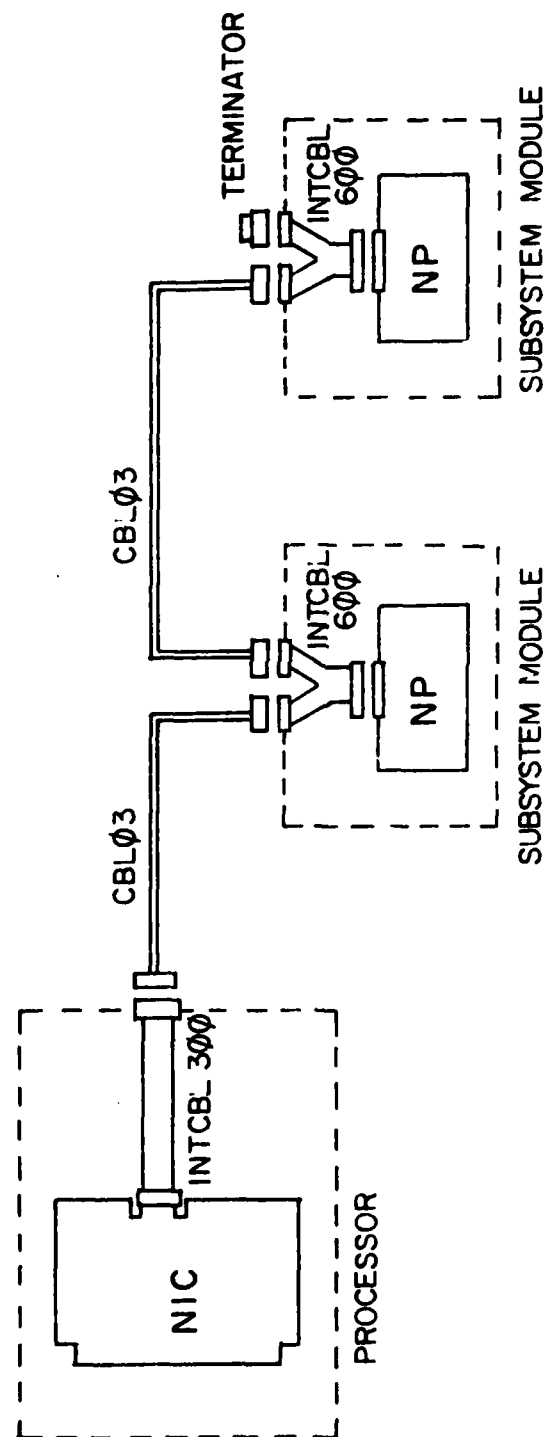

Figure B-4 SIC Bus Connections
| <p>The SIC tests will establish the operational performance of all components of the Subsystem Information Channel (SIC). The components to be tested include the nameplate interface controller, the subsystem information channel bus and two electronic nameplates. Test scripts I.1, I.2, and I.3 should have been run and the LMG CRT should have the prompt:</p> <p style="padding-left: 40px;">CMD&gt;</p> <p>displayed before preceding with these test scripts.</p> <p>N.1 SIC Test Setup(Refer to Figure B-4 )</p> <ul style="list-style-type: none"> <li>a) Disconnect the SIC cable Ø3 from the back of the LM if it is connected. Observe that the SIC CONFIGURED LED on the LM front panel is not lighted.</li> <li>b) Connect the SIC bus terminator, 3, to the J3 connector of the synchro subsystem's nameplate.</li> <li>c) Connect one of the SIC cables numbered Ø3 to P3 of the synchro nameplate and to J3 of the serial nameplate.</li> <li>d) Connect the other SIC cable Ø3 between P3 of the serial nameplate and J3 on the back of the LM.</li> </ul> <p>Observe:</p> <p style="padding-left: 40px;">As soon as the nameplates are connected to the LM the SIC CONFIGURED LED lights.</p> <ul style="list-style-type: none"> <li>e) To the CRT prompt:</li> </ul> <p style="padding-left: 40px;">CMD&gt;</p> <p style="padding-left: 40px;">enter:</p> <p style="padding-left: 40px;">@SIC (CR)</p> <p style="padding-left: 40px;">when the CRT displays:</p> <p style="padding-left: 40px;">SUBSYSTEM INFORMATION CHANNEL TEST</p> <p style="padding-left: 40px;">ENTER COMMAND AND DATA AS XX,XX,XXXX,XX...</p> <p style="padding-left: 40px;">proceed to the following tests.</p> <p>On the following tests an interpreter program will accept instructions in a format similar to the SIC commands and will</p> |                               |